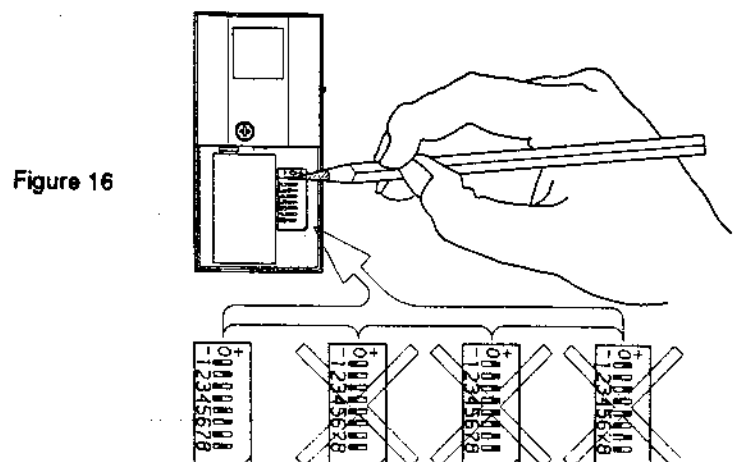

Figure 16
Remote controls consist of a transmitter and a receiver. The transmitter sends a coded security signal. The receiver is incorporated in the powerhead electronics. It receives a signal to initiate a door cycle. The transmitter is equipped with a small external switch on the side of the transmitter case (See Figure 16). This switch has two positions to access two control channels.
- Set your own code by changing the position of the switches numbered 1 to 8 on the code switch block (Figure 16).